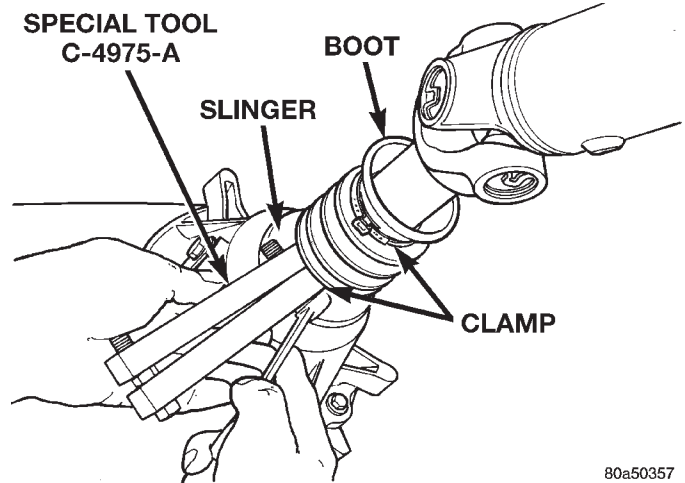

Fig. 79 Slinger Boot Installation
- (8) Install boot on output shaft slinger and crimp retaining clamp with tool C-4975-A (Fig. 79).